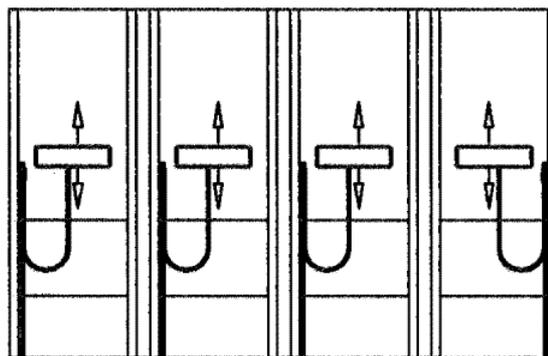

Fig. 46: Example: Power supply schematic for multiple lifts
- For more than two lifts, the power supply lines of the middle lifts must be installed such that each faces the direction of the service door (see Fig. 46).
- On each of these middle lifts, mount an additional side panel up to half the lift height (see Fig. 46). The bottom passage up to a height of 1875 mm (73.8 in) remains free.